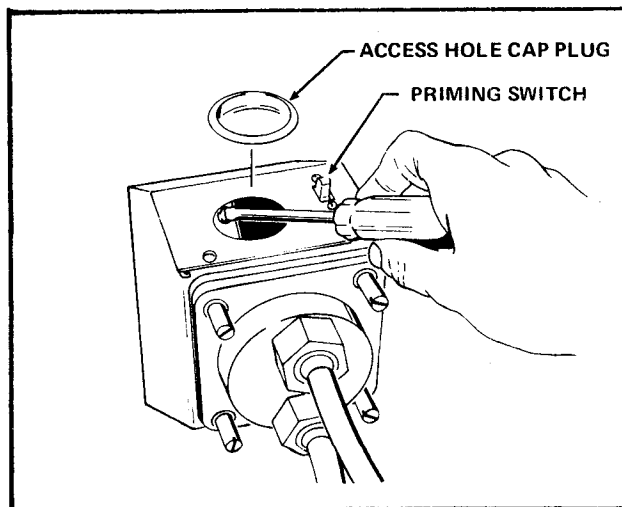

Figure 3-15. Adjustment of Syrup Pump
A. Remove the Hole Plug from a Syrup Pump. See Figure 3-15.